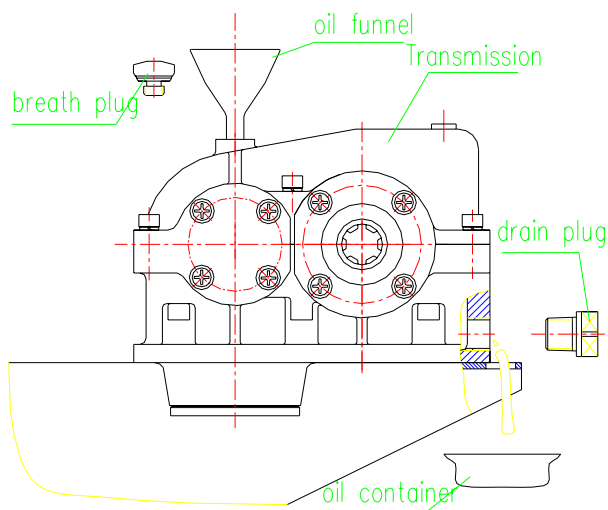

FIG19
- Remove drain plug from the back of transmission , and drain lubricate oil into a container, see FIG19.
- Put 0.25L #18 hyperbolic gear oil into the transmission, see FIG19.
- Replace fill/ plug into the transmission and tighten. Clean the surface of transmission, see FIG19.